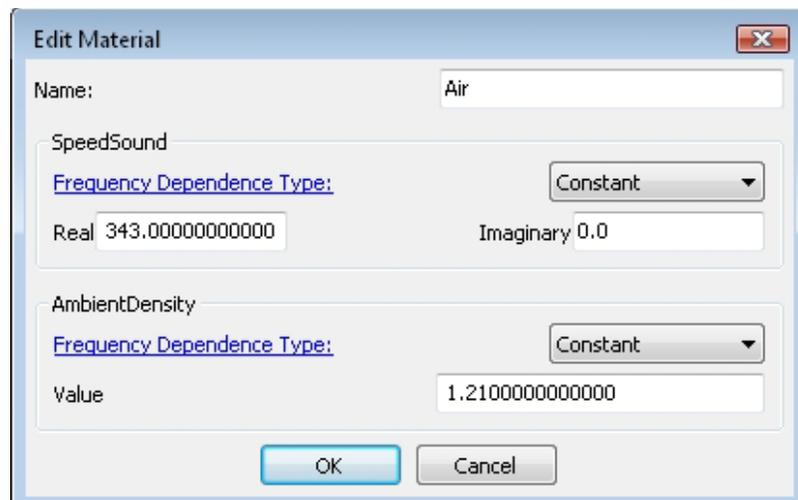

Figure A.38 Edit material properties.
- In the main model menu select: **Model** → **Materials** → **Air**. Right-click on **Air** and select **Edit...** Figure A.38 will appear.